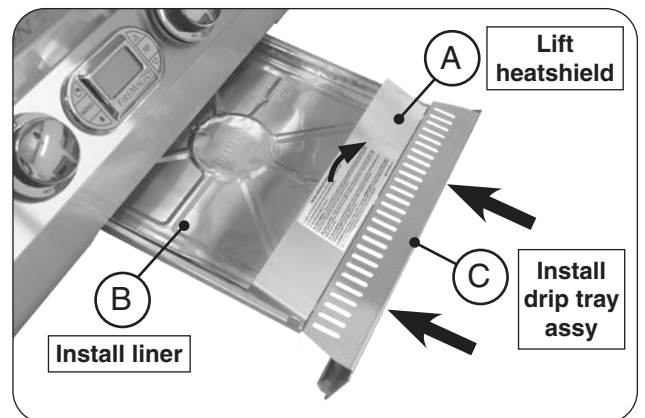

Fig. 21-4 Install drip tray
1. Lift the heatshield slightly, then place a liner into the drip tray (Fig. 21-4, A and B).
2. Then fully insert the drip tray assembly into the bottom front opening of the control panel (Fig. 21-4, C).